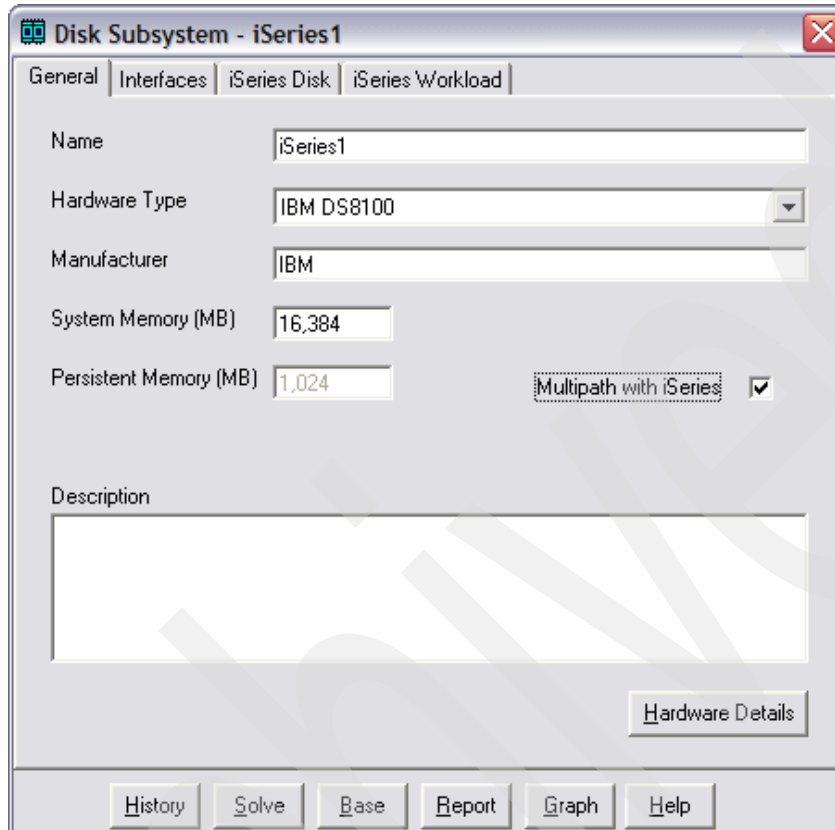

Figure 4-55 Selecting the external disk subsystem
- In the Disk subsystem - iSeries1 window, select the General tab. For Hardware type, select the desired disk system. In our example, we select **DS8100** and **Multipath with iSeries**, as shown in Figure 4-55.